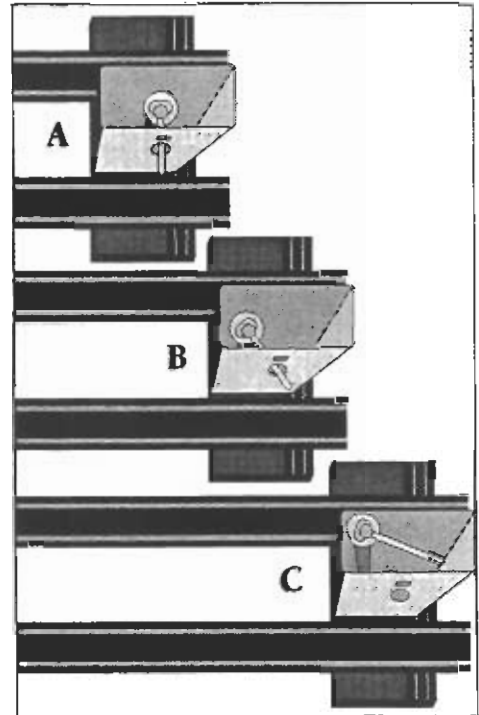

Figure 13
10. Free the pneumatic cylinder from the upright tower by pushing in on the pneumatic handle and moving the cylinder aside (Figure 13).